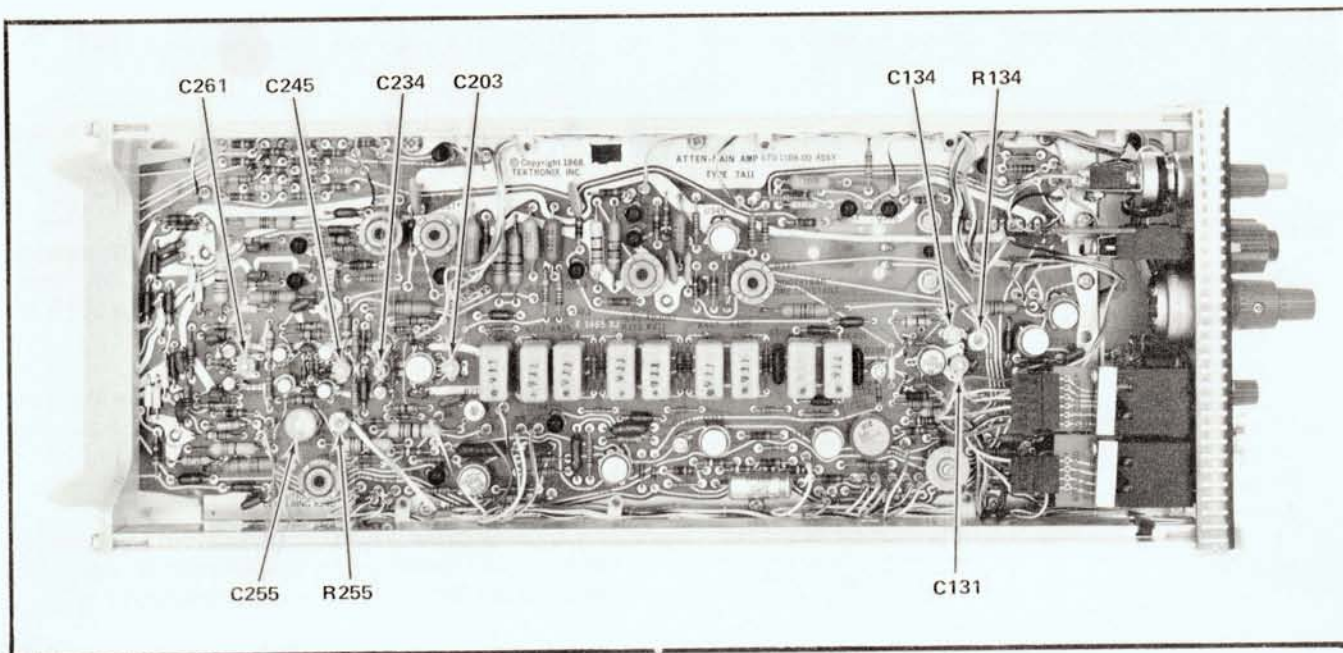

Fig. 5-12. Adjustment locations for step 12.
(1) Within the Plug-In Extender (item 10), disconnect the bottom connector on the left and on the right side. Connect the left and right side male connector to the Channel A and B inputs of the 3S1, respectively, using 2 ns cables (item 17) and GR-to-BNC female adapters (item 19).
(2) Connect the 7A11 to the Extender and install the Extender in the Oscilloscope vertical plug-in compartment.
(3) Connect the 7A11 Probe through the 50  $\Omega$  Termination/Adapter and a 5X GR Attenuator to the + Output Connector of the Type 106 Square Wave Generator.
(4) Select FULL Bandwidth at the 7A11.
(5) Switch the 3S1 Channel A and Channel B mVolts/Div controls to 50 mV.
(6) Adjust the Type 106 Square Wave Generator + Transition Amplitude as necessary to obtain a 5 division display on the Sampling System CRT. (7A11 at 10 mV/Div.) Use the 7A11 POSITION control to center the display.
(7) Perform the adjustments listed in Table 5-6, obtaining an optimum square top-left corner and flat top on the waveform. Adjustment locations are shown in Fig. 5-12.
*The step function must appear in the same area of the CRT as the waveform against which it is being compared. If the 7A11 display is not essentially the same as the Calibration Fixture display, re-adjust C255 and R255 to make it the same. However, if re-adjustment is done, the waveform must again be compared against the Sampling System reference waveform, as in step 12-e (2), (5), (6), (8) and (9). When C245 and R245 are properly adjusted, the step function observed on the Sampling System CRT will duplicate the mean trace shape of the reference waveform drawn on the Sampling System CRT, and the step function observed on the 7000-Series Oscilloscope will duplicate the Calibration Fixture step function. Inability to meet this requirement indicates dissimilarity between the square waves provided by the Type 106 and the Calibration Fixture, a situation which should not exist in properly calibrated test equipment.*
(15) RE-ADJUST—C255 and R255 (Fig. 5-12) as necessary to make the 7A11 display as nearly like the Calibration Fixture display as possible. Do not change any other transient response adjustment settings. (Re-check the step function through the Sampling System if re-adjustment is done.)